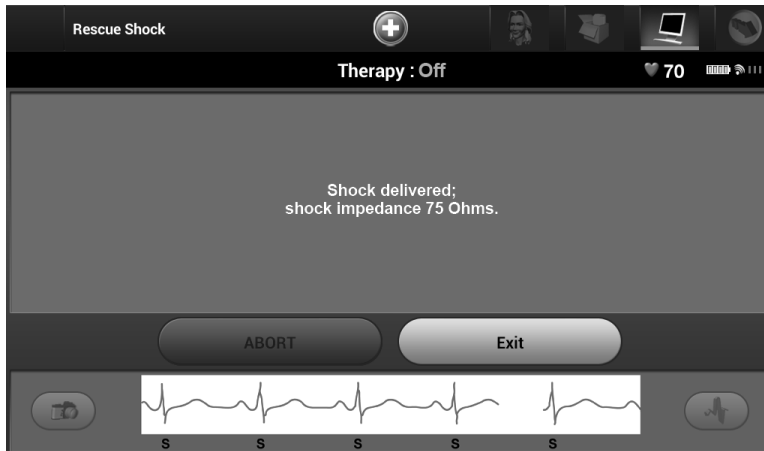

Figure 51: *Confirmation of Rescue Shock delivery*
3. A confirmation screen will appear with notification that the shock was delivered successfully along with the corresponding shock impedance (Figure 51).